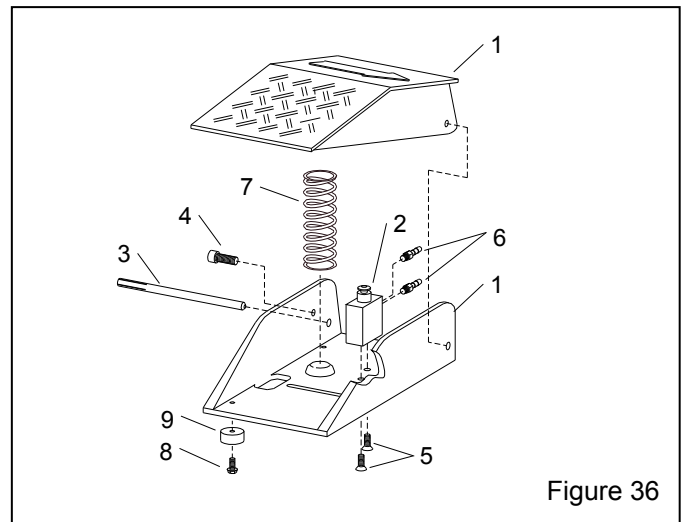

Figure 36
9.7 Foot Pedal Assembly, Figure 36